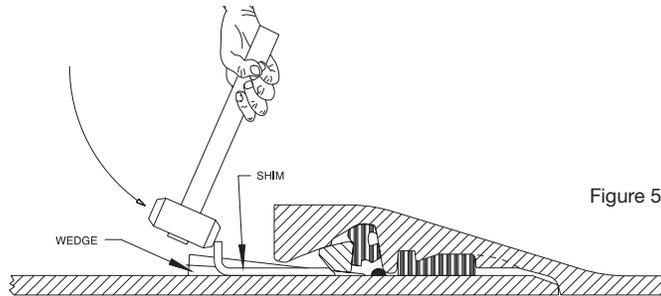

Figure 5
**4. With a large hammer (such as a six pounder) vigorously drive one or two "L"-shaped shims under the locking segment until the ends of the shims firmly contact the spigot weld bead.** (Fig. 5) Shims and wedges can be safely and firmly held against the pipe as they are hammered using a block of wood or a board. Safety precautions such as the wearing of safety glasses and keeping clear of the hammer during striking should always be taken to avoid injury.